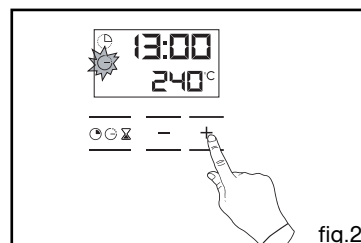

fig.2
The display flashes 0:00 to indicate that you can now adjust the setting (fig.2).
Example: end of cooking at 13:00 (fig.2).
- Adjust the chosen time by pressing the buttons + or - (fig.2)